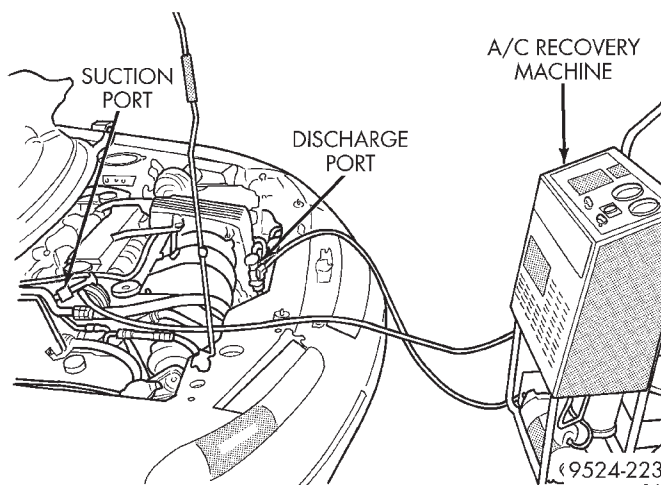

**Fig. 3 Refrigerant Recovery Machine Hookup**
(1) Connect a suitable charging station, refrigerant recovery machine, and a manifold gauge set with vacuum pump (Fig. 3).
(2) Open suction and discharge valves and start vacuum pump. The vacuum pump should run a minimum of 45 minutes prior to charge, to eliminate all moisture in system. When suction gauge reads -88 kPa (-26 in. Hg) vacuum or greater for 45 minutes, close all valves and turn off vacuum pump. If the system fails to reach specified vacuum, the refrigerant system likely has a leak that must be corrected. If the refrigerant system maintains specified vacuum for at least 30 minutes, start the vacuum pump, open the suction and discharge valves. Then allow the system to evacuate an additional 10 minutes.
(3) Close all valves. Turn off and disconnect the vacuum pump.
(4) The refrigerant system is prepared to be charged with refrigerant.